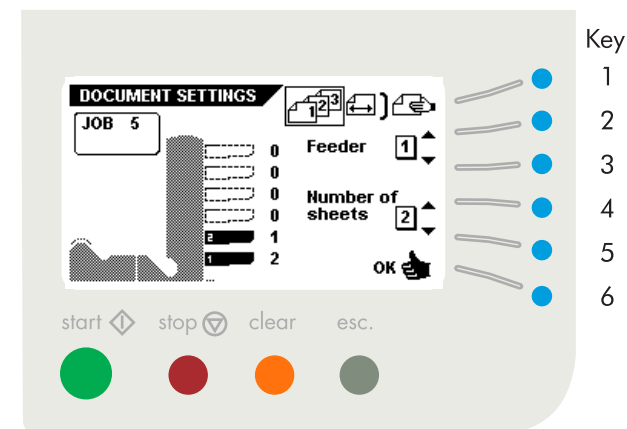

Fig. 39
- go to the envelope with closed flap screen (key 1).
- confirm the settings by pressing "OK" (key 6) which will get you back to the "job settings" menu.
When the "document settings" menu is selected and key 3 is pressed in the "job settings" menu, the display shows the screen as shown in fig. 39.
When number of sheets is selected the following choices are available (see fig. 39):